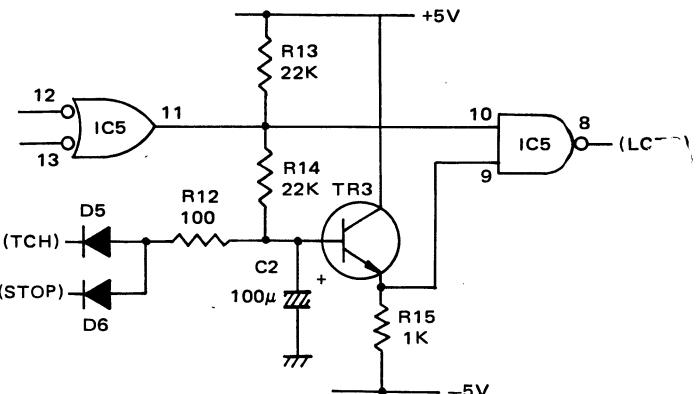

Fig. 4 Delay circuit for coincidence signal
The tonearm travel stops when it reaches the ordered position, either the preset locate position or the arm rest. As described earlier, when the tonearm reaches the above position, the coincidence signal is provided. Accordingly, Pin ⑪ of IC5 becomes high level which is in turn fed into Pin ⑩ of IC5 in Fig. 4. However, by TR3 and the capacitor C2 at its base, charging voltage (base voltage of TR3) gradually increases in a time determined by the time constant of the circuit. If the coincidence signal is sustained for a certain period of time, the emitter voltage of TR3 reaches high level and after that, a signal is obtained at Pin ⑧ of IC5 indicating that the tonearm position coincides the ordered position. By this signal, both memory circuits, LCT_{FF} and CUT_{FF} is simultaneously reset for descending the tonearm and the automatic function is completed.